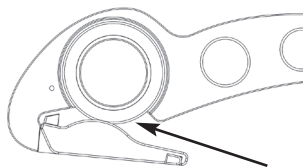

Fig. 2
6. In order to initiate a cut at a heavy seam, use the area of the blade shown in fig. 2.